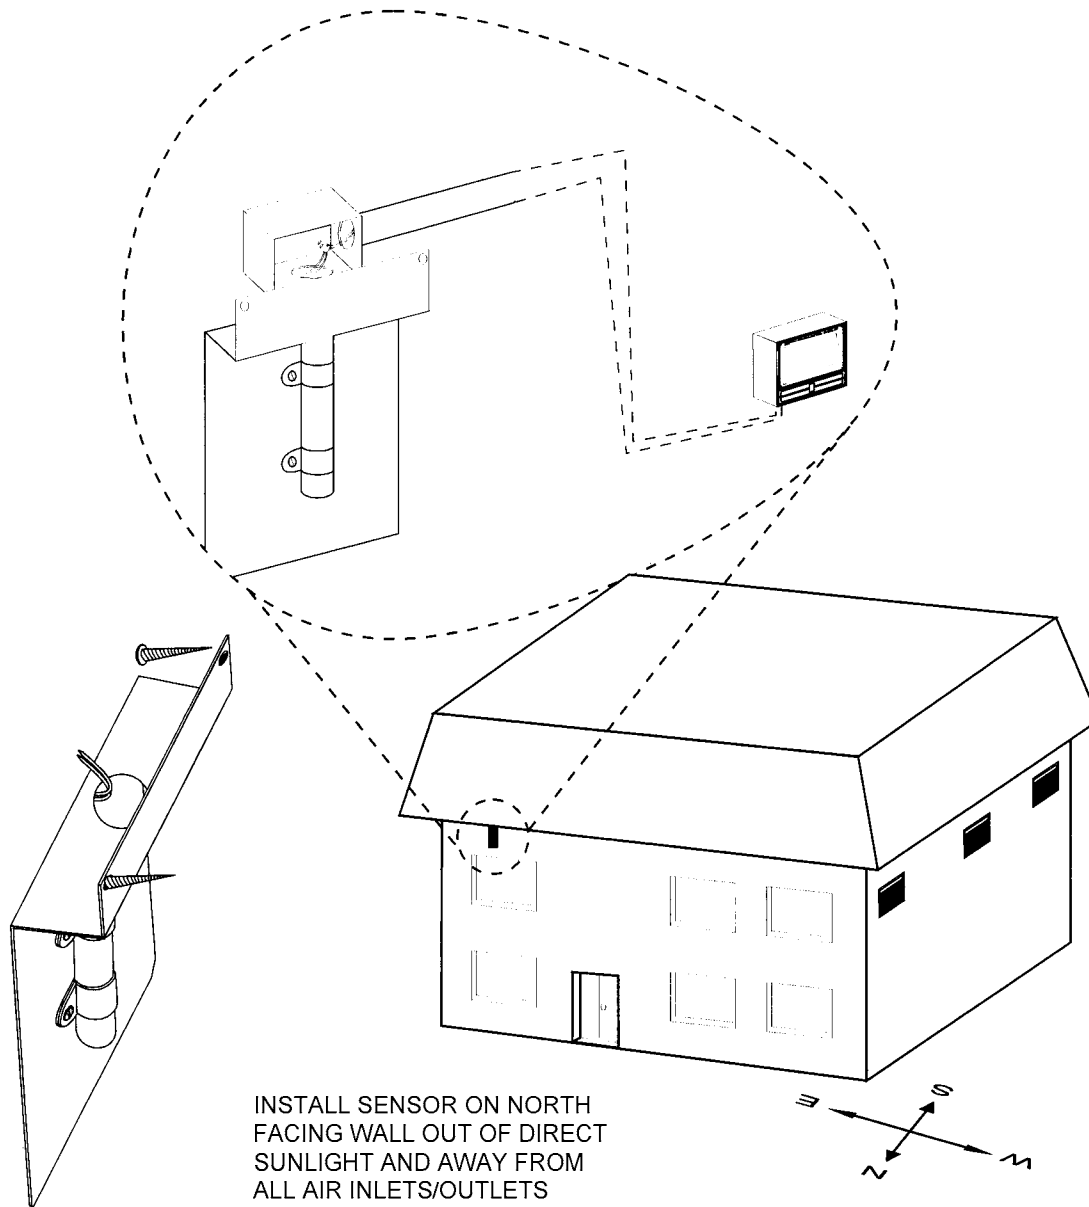

Figure 2-4. Outdoor Air Sensor Installation
1. Refer to Figure 2-4 for a typical Outdoor Air Sensor installation.